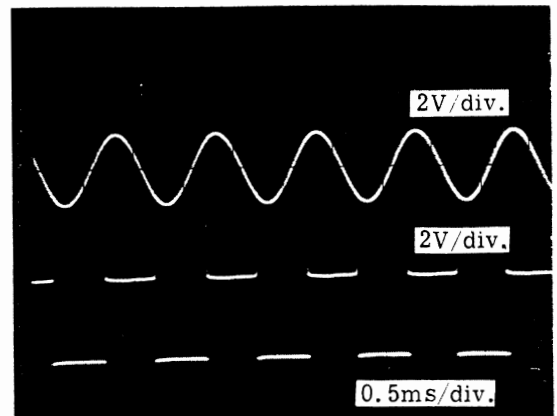
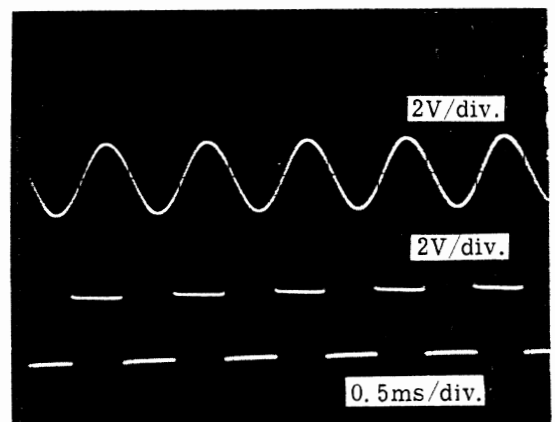
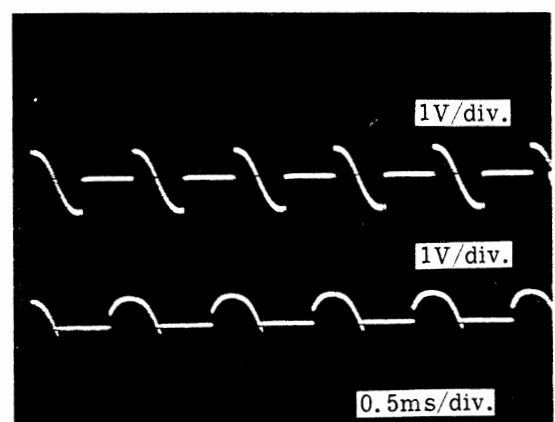

Figure 5-15. Bridge Circuit Check B
Figure 5-16. Bridge Circuit Check C
Figure 5-17. PHASE Detector Check
- (1) Connect oscilloscope A channel input to "HIGH" unknown and B channel input to A10 Test Point and chassis ground.
- (2) The oscilloscope patterns should be as shown in Figure 5-15.
- (3) Connect the oscilloscope B channel input to XA10 3R instead of A10 Test Point.
- (4) The oscilloscope B channel pattern should be as shown in Figure 5-16.
- (5) If the both output at A10 Test Point and at XA10 3R are not normal, check the input signal to XA10 5L. If one of them is not normal, check the circuits identified with the output.
- (6) When both output are normal, set Cs counter to 0050 as described in step b. through e.
- (7) Connect the oscilloscope A channel input to A10Q9 emitter and B channel input to A10Q18 emitter. The pattern should be as shown in Figure 5-17.